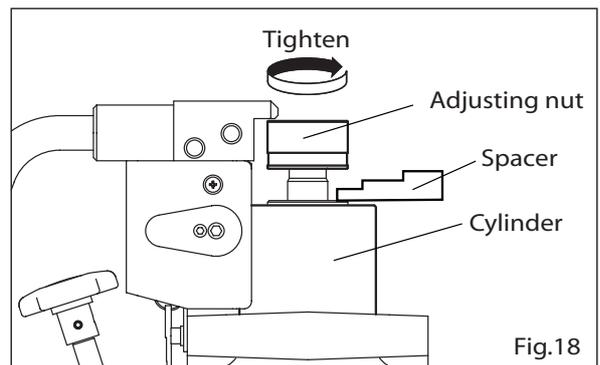

Fig.18
- 2) Place the spacer on the upper surface of the cylinder and lightly tighten the adjusting nut. (Fig. 18)